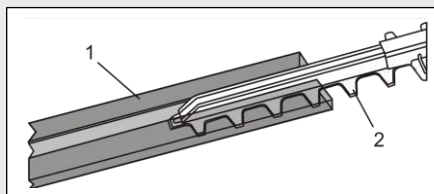

Fig. 3
1. Slide the blade guard (1) over the cutting blades (2) (Fig. 3).